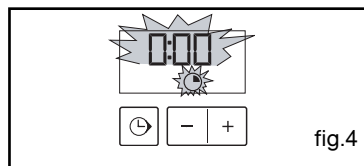

fig.4
- The cooking time indicator and 0:00 flash (fig.4).
The displays once again shows the time of day when the function selector is returned to 0 (fig.4).